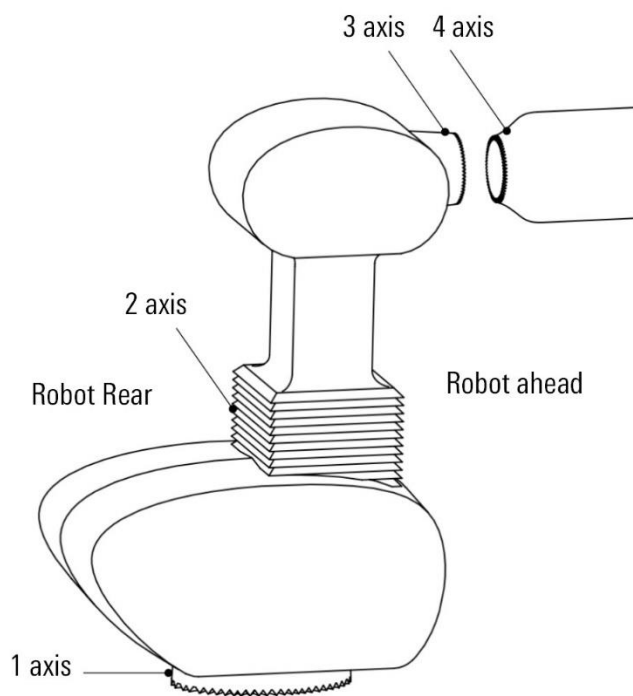

Figure 2-3 Diagram of step 3
Step2. When installing the 1/2/3 axis, please open it according to the arrow in Figure 2-3. The 3-axis should be placed around the periphery of the 4 axis and gradually wrapped in the direction of the 1 axis. After installation, the opening should be located behind the robot.